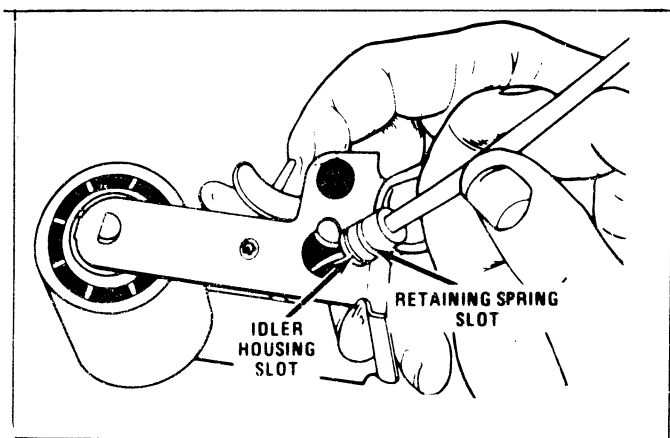

Figure B4
5. Slip the nylon retainer end of the control cable from the idler housing, *Figure B4*.